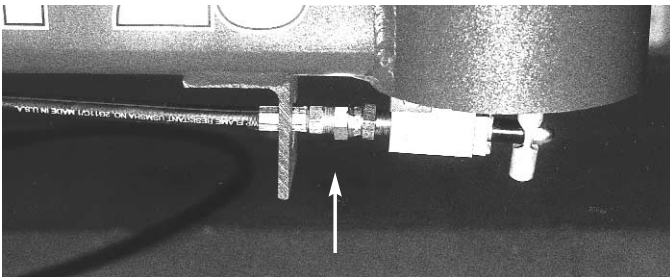

Figure 1
1. Disconnect tower's hydraulic hose from tower valve. (See arrow - Figure 1.)